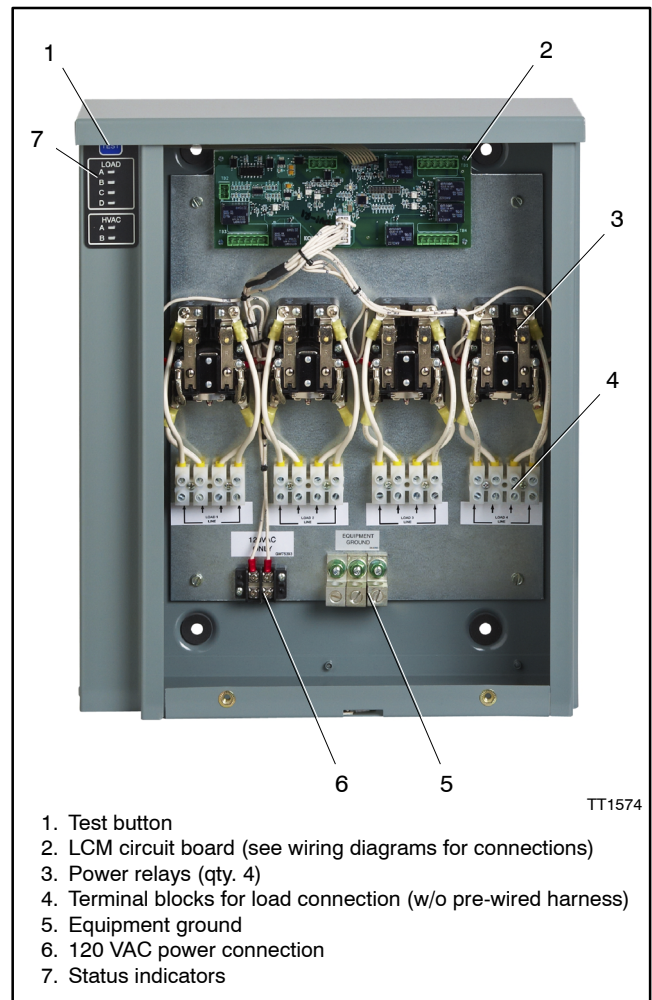

Figure 10 LCM Components (model without pre-wired harness shown)
14. Connect 120 VAC to the terminal block labeled 120 VAC in the lower left corner of the LCM enclosure. See Figure 10 and the wiring diagrams in Section 8. The circuit must be protected by a 15 amp fuse or circuit breaker (not provided).